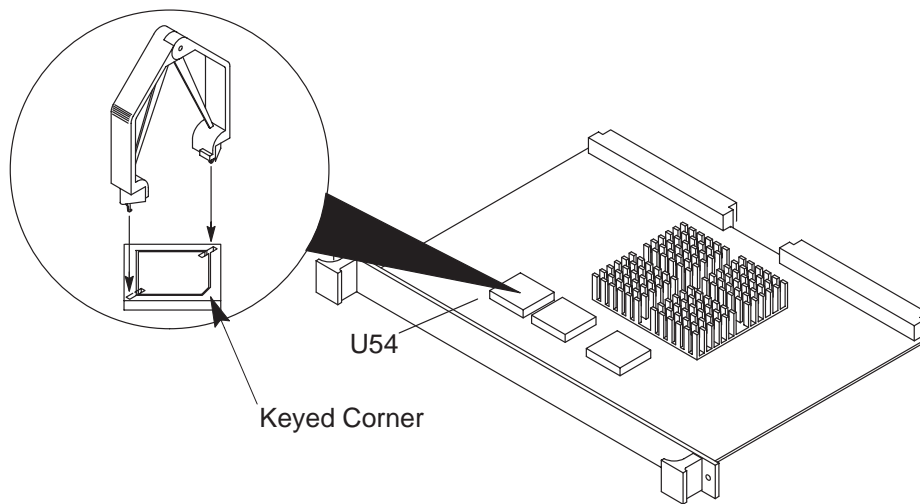

Figure 2-3. Removing and Replacing the Boot ROM
- a. Remove the Boot ROM from its socket on the Model 743, at location U54, using the IC removal tool as shown in Figure 2-3.
- b. Align the new Boot ROM in its socket, at location U54, with the keyed corner matching the sockets keyed corner. Carefully press the new Boot ROM into its socket. See Figure 2-3.